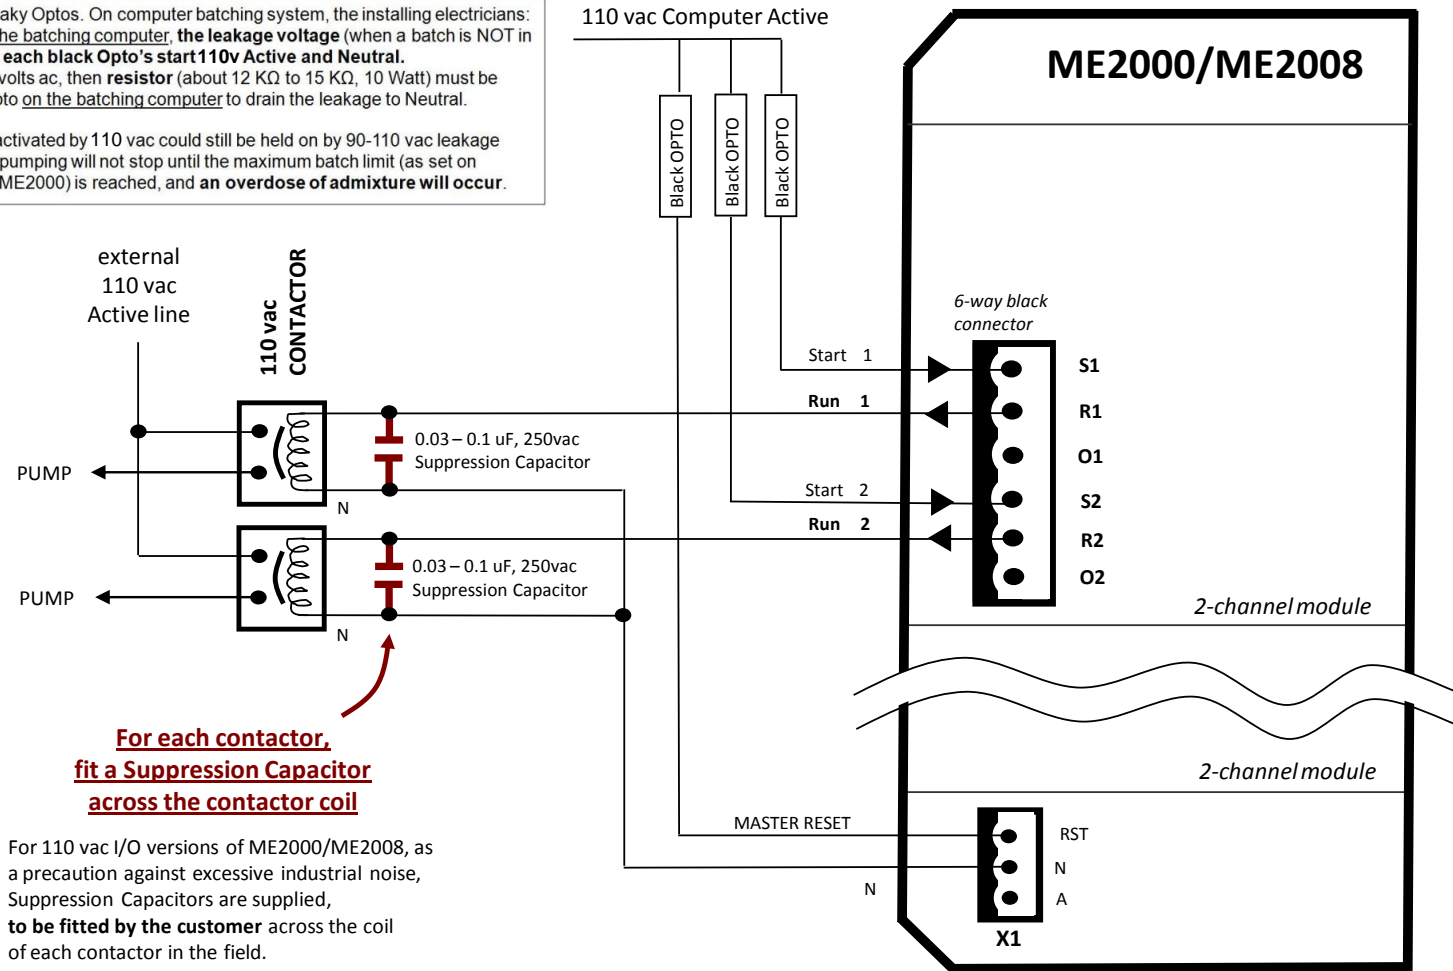

Figure 4. Fitting Suppression Capacitors to prevent electrical noise, and Resistors to prevent voltage leakage.
- Fitting a 0.03 to 0.1µF 250vac capacitor on the pump contactor coil (between pump drive of ME2008 and Neutral), helps eliminate any voltage spikes (see Figure 4 on Page 12).
Computer starts have Black Optos which are usually solid state optos. When computer starts, the Optos stay on ("110vac energized") for the duration of the batch cycle and turn off at completion of the batch cycle. When the optos turn off, sometimes a higher than normal residual leakage voltage is maintained e.g. 90 vac (so installers/maintainers must measure, on the batching computer, the leakage voltage, when a batch is NOT in progress, between each black Opto's start 110v Active and Neutral). This voltage is sometimes enough to keep ON relays that drive contactors or solenoid coils. If this occurs, fit a 12kΩ 5W resistor between the Start Drive and Neutral connections (see Figure 4 on Page 12).
2	Sometimes spiking contactor coils in close proximity to ME2008 can cause interference. Fitting 0.01 to 0.03µF 250 vac capacitors on the pump contactor coils (between Neutral and the R1 pin of the DCM black X1 plug) helps eliminate spikes (see Figure 4 on Page 12).